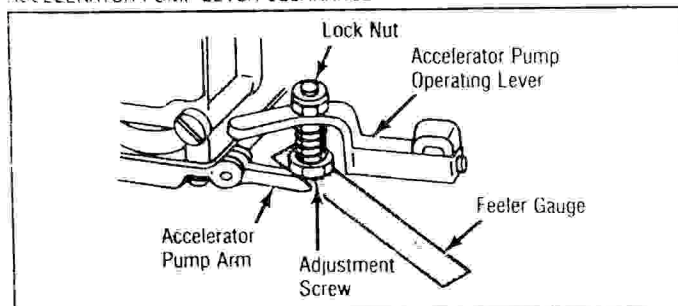

Fig. 7 Accelerator Pump Lever Clearance Adjustment
- Hold throttle valves wide open. Manually depress accelerator pump arm. See Fig. 7.